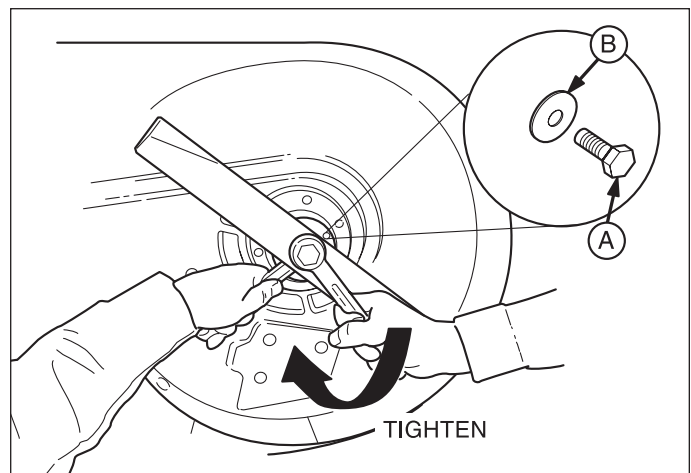

Figure 21. Installing The Blade
5. Reinstall each blade with the tabs pointing up toward deck as shown in Figure 21. Secure with a bolt and flat washer and torque bolts to 70 ft.lbs. (94 Nm).